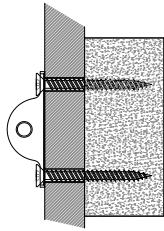
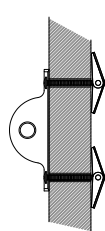

FIGURE 1
FIGURE 2
- DRYWALL WITH STUDS: Use screws to affix to studs, and use hollow wall anchors and screws to affix to drywall. See FIGURE 1.
- DRYWALL WITHOUT STUDS: Use toggle bolt and screws to affix to drywall. See FIGURE 2.
1. Attach mounting brackets (E) near the middle-top back edge of the furniture piece by inserting the shorter screws (I).
3. Attach the second brackets (E) to stud wall by inserting the longer screw (J) (See Figure 1) or toggle bolt (K) with drywall (See Figure 2).
5. Insert the clevis pin (F) through holes on brackets and hole on steel aircraft cable (G). Use hair pin (H) to go through small hole on clevis pin (F) to lock it.
6. Repeat above step to attach the end of aircraft cable (G) to the bracket on the wall.